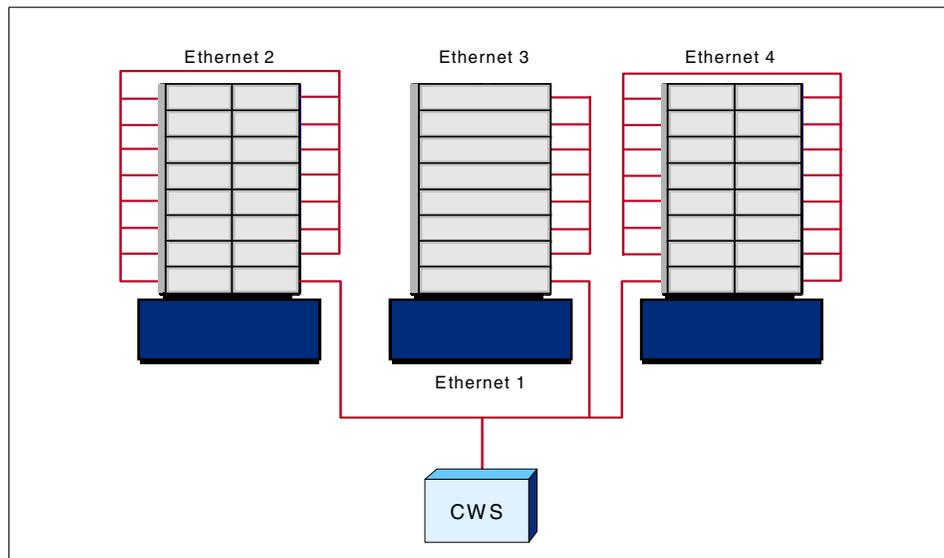

Figure B-8 Method 2 - Ethernet topology for multi-frame SP system
2. A second approach designates the first node in each frame as a network install server, and then the remaining nodes of that frame are set to be installed by that node. This means that, from the control workstation, you will have an SP Ethernet segment connected to one node on each frame. Then the network install node in each frame has a second Ethernet card installed, which is connected to an Ethernet card in the rest of the nodes in the frame. Figure B-8 shows an Ethernet topology for this multi-frame system.